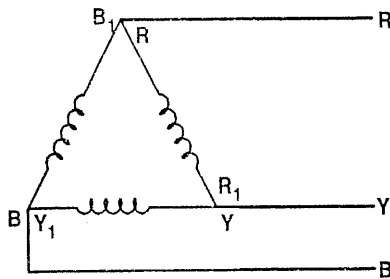

FIG. 2.83 : DELTA CONNECTION
(1) Line voltage and phase voltage (2) Line current and phase current [December-2016, 4-Marks]
- In this connection the dissimilar ends of three phase windings are connected together i.e. the finish of one winding is connected to the start of next windings and so on to obtain delta or mesh connection as shown in Fig. 2.83.